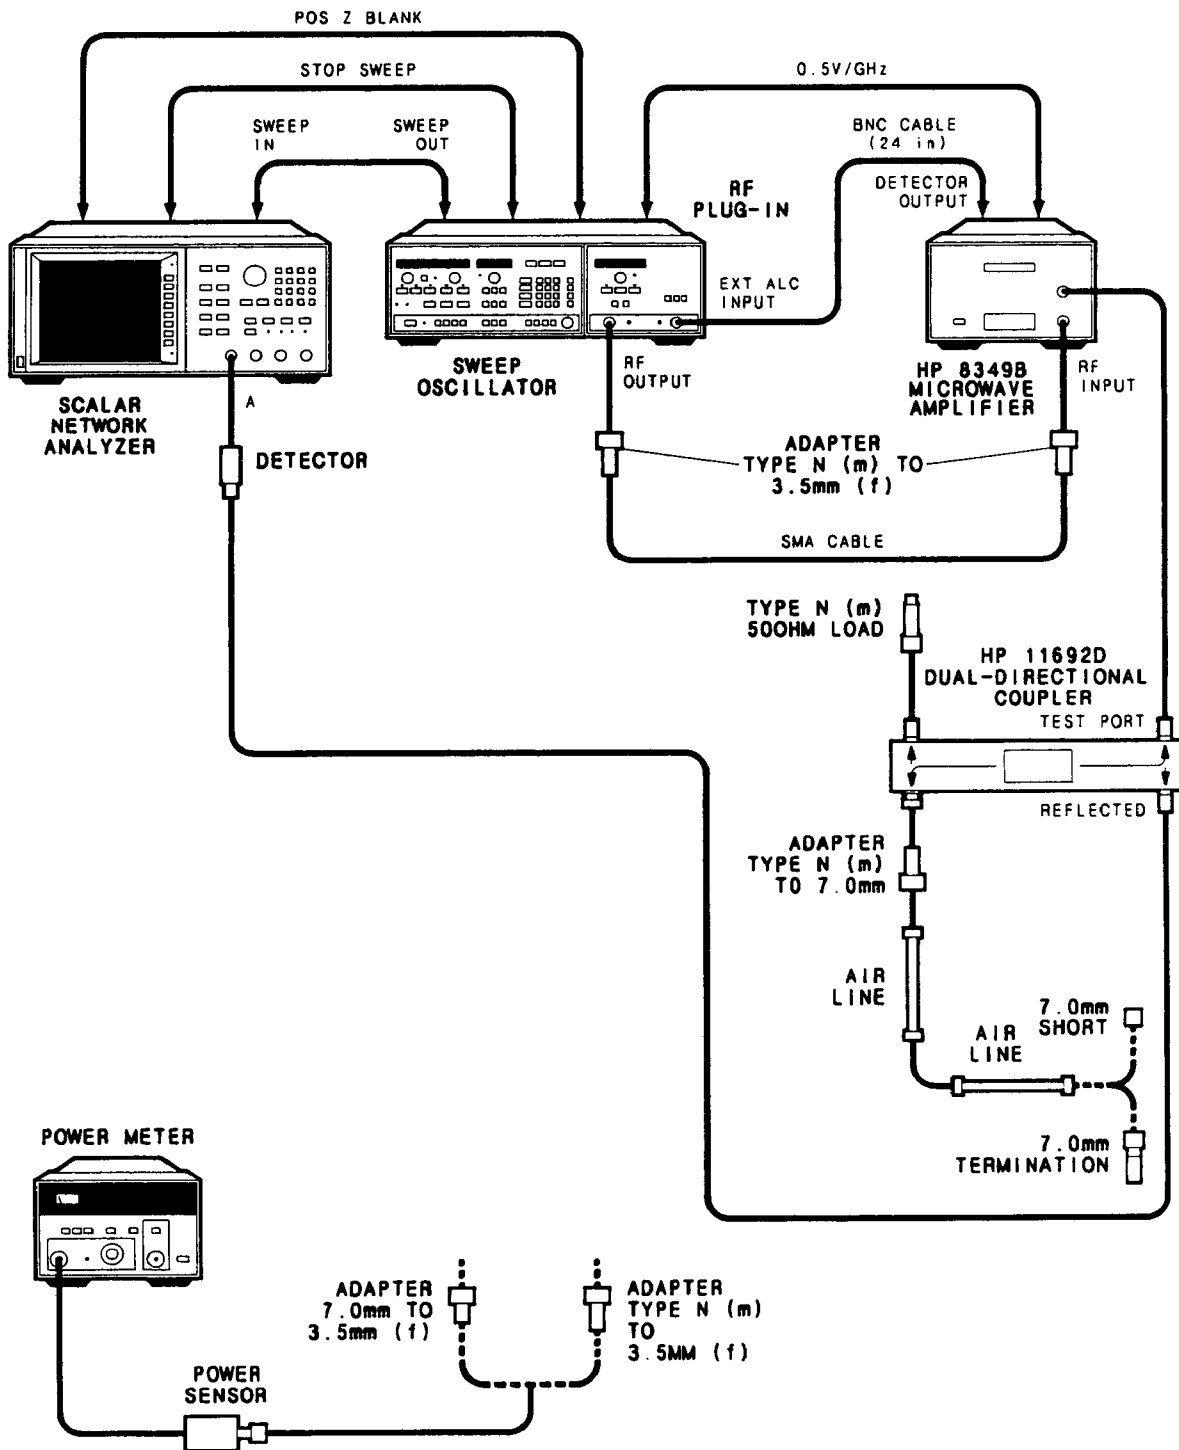

Figure 4-4. Output VSWR Test Setup (Levelled)
9. Connect the equipment as shown in Figure 4-4 with the load connected to the air line.
12. Connect the short to the air line as shown in Figure 4-4 and set the network analyzer to display measurement minus memory.